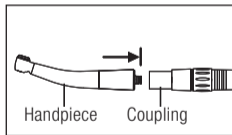

Fig. 2
- 1 Insert the handpiece into the coupling (Fig. 2).